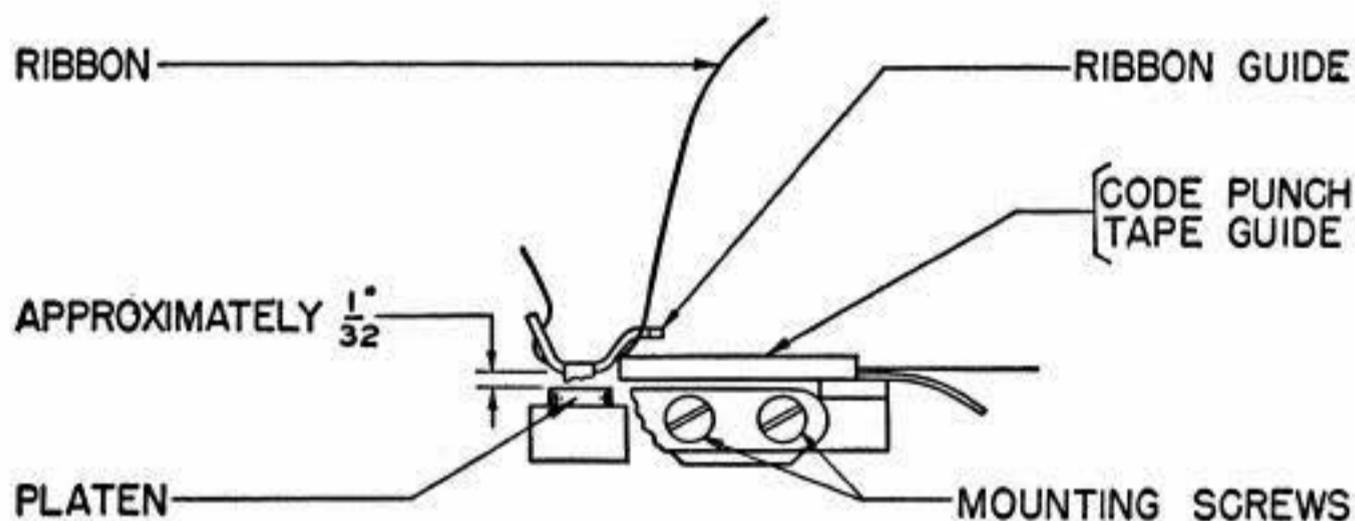

Fig. 47
2.96 **Code-Punch Tape Guide:** The tape should enter the code-punch block without buckling and a centerline through the tape-code holes of the LTRS combination should be at right angles to the edges of the tape. **Fig. 47**
(a) The ribbon should clear the platen as indicated in Fig. 47 when the platen is in either the FIGS or the LTRS position. The guide should be centered over the platen. **Fig. 47**